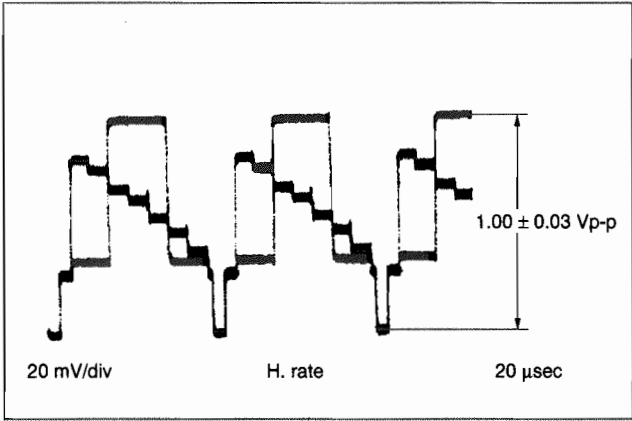

Fig. 3-3-3 EE Y level
- (1) Connect an oscilloscope to Y OUT TERMINAL.
- (2) Set the EVR mode by pressing the "K" button of the pre-setting unit.
- (3) Set "A : 11" by twice pressing 1 button of the remote controller.
- (4) Adjust the CH "+" or "-" buttons for 1.00 ± 0.03 Vp-p. (See Fig. 3-3-3.)
- (5) Set the normal VCR mode by pressing the "K" button of the presetting unit again so adjustment data is memorized.